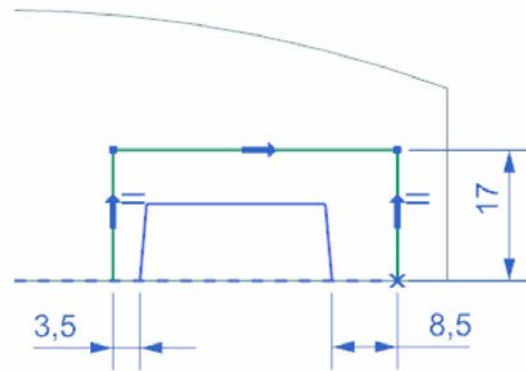

Figure 11-96 Open sketch created
5. Again, create another open sketch, as shown in Figure 11-96, and exit the Sketch in Task environment.